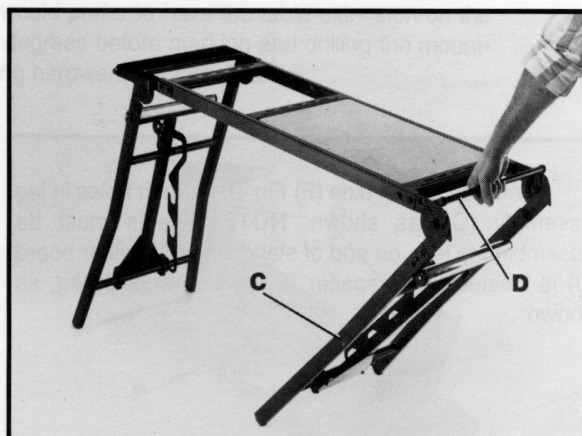

Fig. 5
2. Standing directly behind leg (C) Fig. 5, lift up bar (D) and pull out leg (C) until it locks in place.